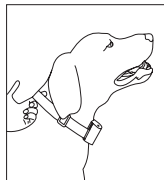

Fig. 3
- » Always leave a finger width of space under the collar (Fig. 3).